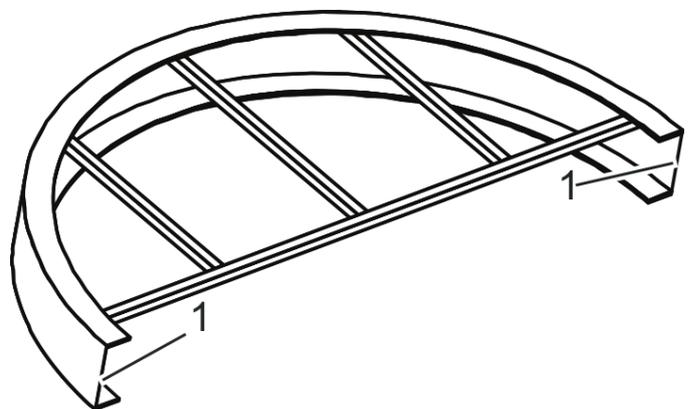

Fig. 51 Ceiling half (example)
10. On the two edges (Fig. 51/1) of the raised ceiling half (Fig. 51), insert a connecting bracket into the grooves on the inside.